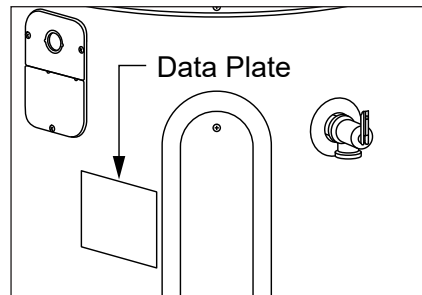

Figure 23 - The water heater’s electrical requirements can be determined from the data plate.
- 1 This water heater requires a 120 VAC single phase 15 amp power supply, at 50Hz or 60Hz. Check the water heater’s data plate (Figure 23) and ensure that the home’s voltage, wiring size (ampacity) and circuit breaker rating and type are correct for this water heater. Refer to the wiring diagram located on the water heater, and on page 38 of this manual, for the correct electrical connections. Ensure that wire sizes, type, and connections comply with all applicable local codes. In the absence of local codes, follow NFPA-70 and the current edition of the National Electric Code (NEC).